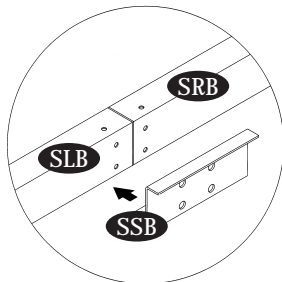

Fig.1
11. Place the sliding channel support (SSB) on the sliding channel (SLB) & (SRB). See fig.1. Align the holes with sliding channels and secure with (S1) screws. See fig. 2.